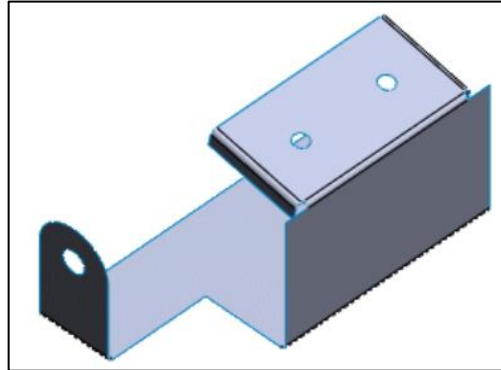

Figure 3: Sheet Metal Part (SOLIDWORKS)
- (i) fix only two of the bolts on each flange as shown in Fig. 3, and